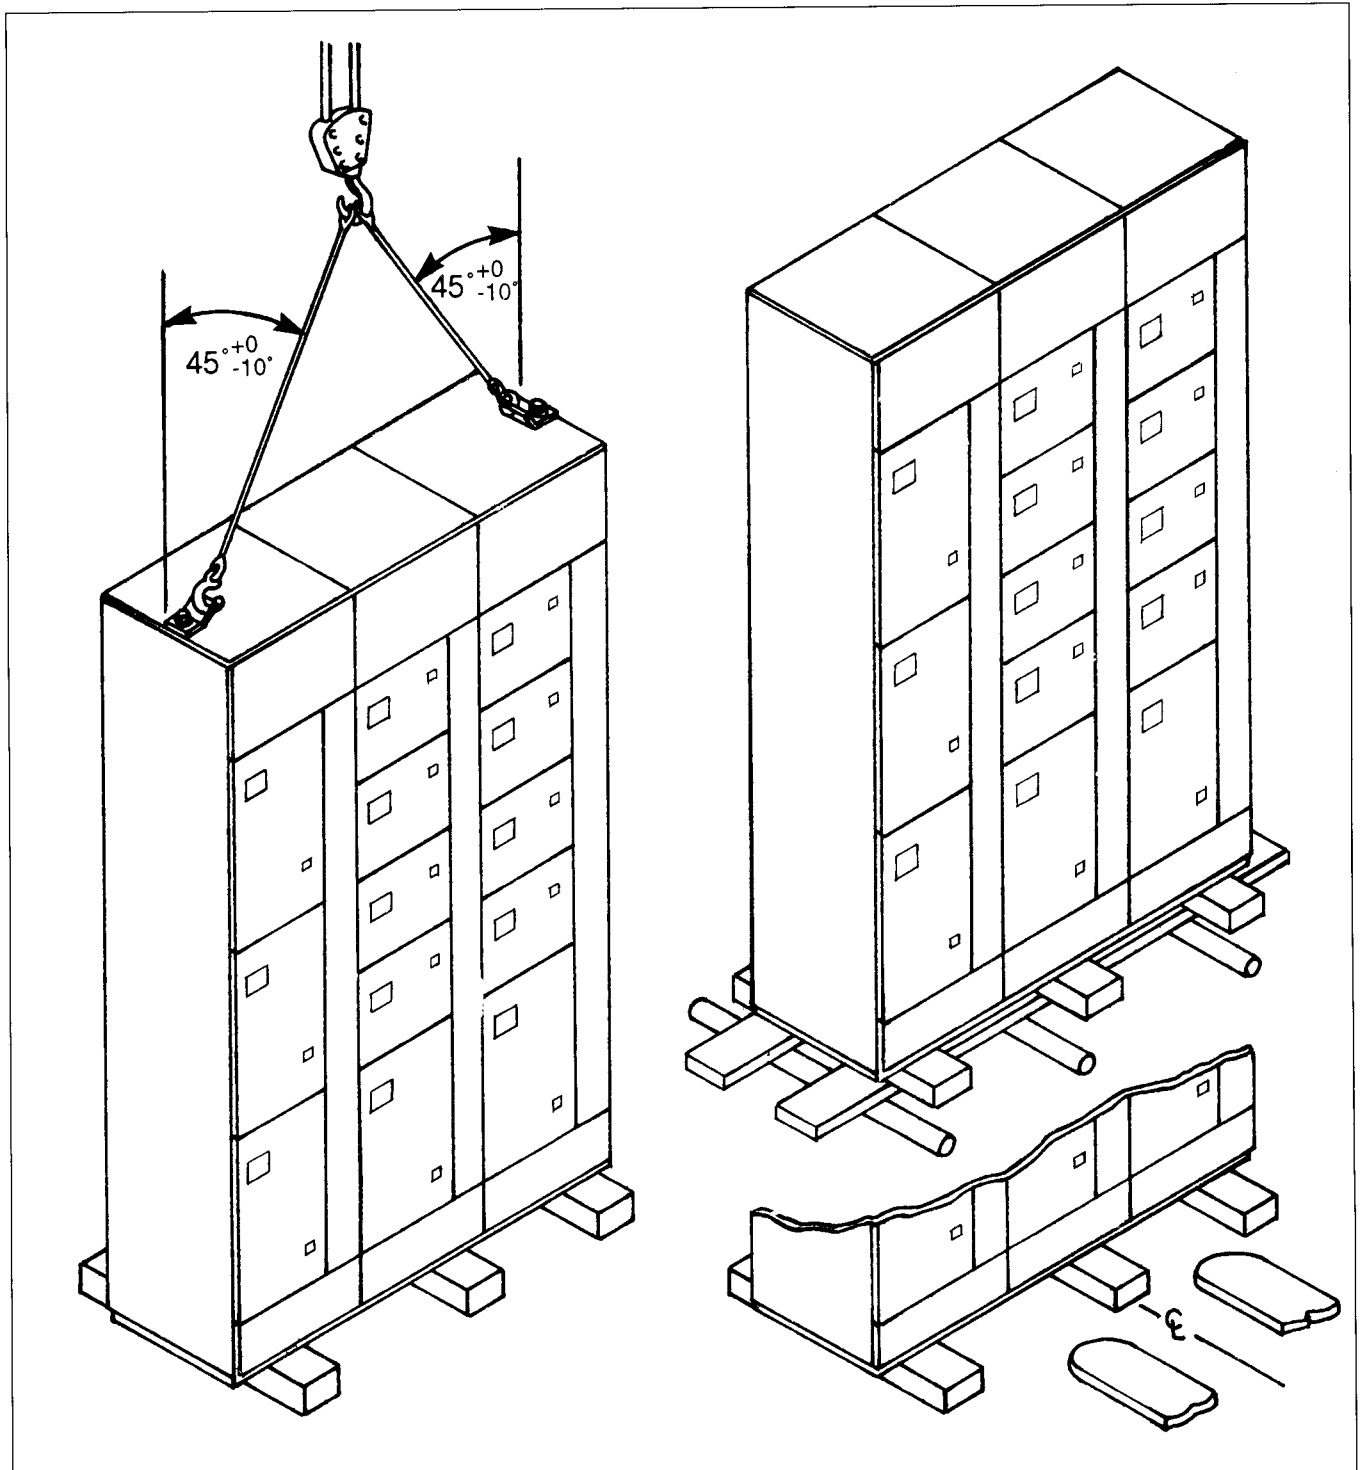

Figure 5: Motor Control Center, Sling, Roller, and Forklift Handling
The motor control centers are shipped in groups of one to four vertical frames which are mounted on wooden shipping skids. When single frames are shipped individually, each is additionally mounted on a special pallet for further stability. Lifting brackets are supplied for each shipping section. If the brackets are shipped loose, assemble the brackets to the top structural members of the control center as shown in **Figure 5**. One bolt attaches the bracket to a 16 inch deep frame. The 20 inch deep frames require two bolts per bracket. Tighten 3/8" hardware to 20 - 30 ft. lbs.
2. Do not allow the angle between the lifting cables and vertical to exceed 45° as shown in **Figure 5**.
Skid removal should be performed just prior to final placement of the control center and is achieved by first removing the bottom horizontal wire space covers which allows access to the skid lag bolts. Install the lifting brackets (see **Figure 5**) to the top of the MCC (torque bolts to 20-30 ft. lbs.) and attach the crane rigging to these brackets. Apply sufficient tension on the rigging to remove all slack without lifting the equipment. This is a recommended safety measure to reduce the possibility of tipping. The lag bolts may now be removed, the MCC lifted, the skids removed, the MCC lowered into place, and the anchor bolts secured. The last operation should be performed with adequate rigging tension to prevent tipping. After all additional shipping sections are secured in a similar manner, sections and bus bars should be joined in accordance with the instructions in the Installation section of this manual. Close doors and reinstall covers as soon as possible to eliminate intrusion of dirt and foreign materials into the MCC enclosure.